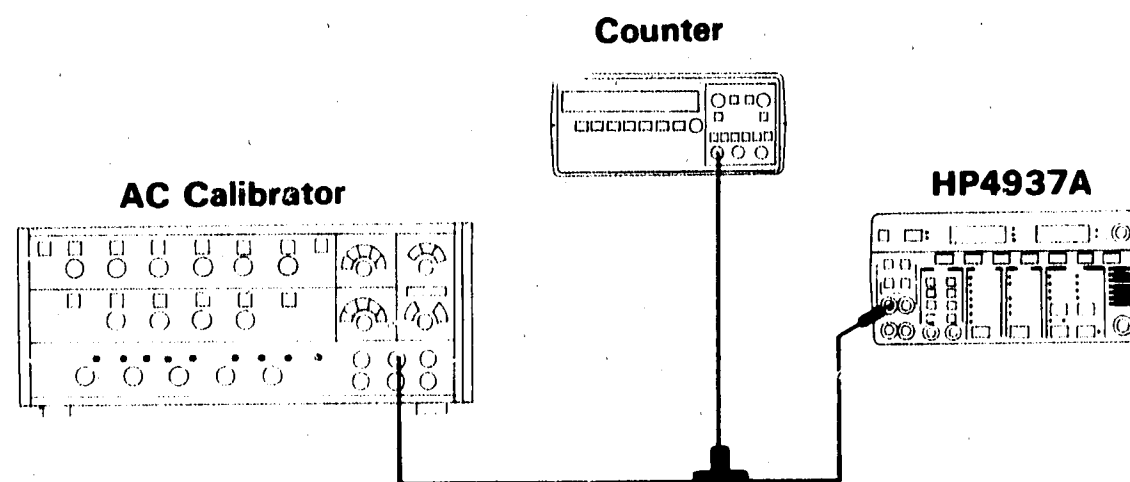

Figure 4-5. Receiver Test at +11 dBm , -40 dBm, and -60 dBm
1. Connect equipment as shown in figure 4-5.